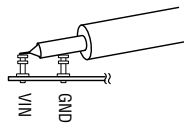

Figure 2. Measuring Input or Output Ripple
**NOTE.** When measuring the input or output voltage ripple, care must be taken to avoid a long ground lead on the oscilloscope probe. Measure the input or output voltage ripple by touching the probe tip directly across the VIN or CPO and GND terminals. See Figure 2 for proper scope probe technique.